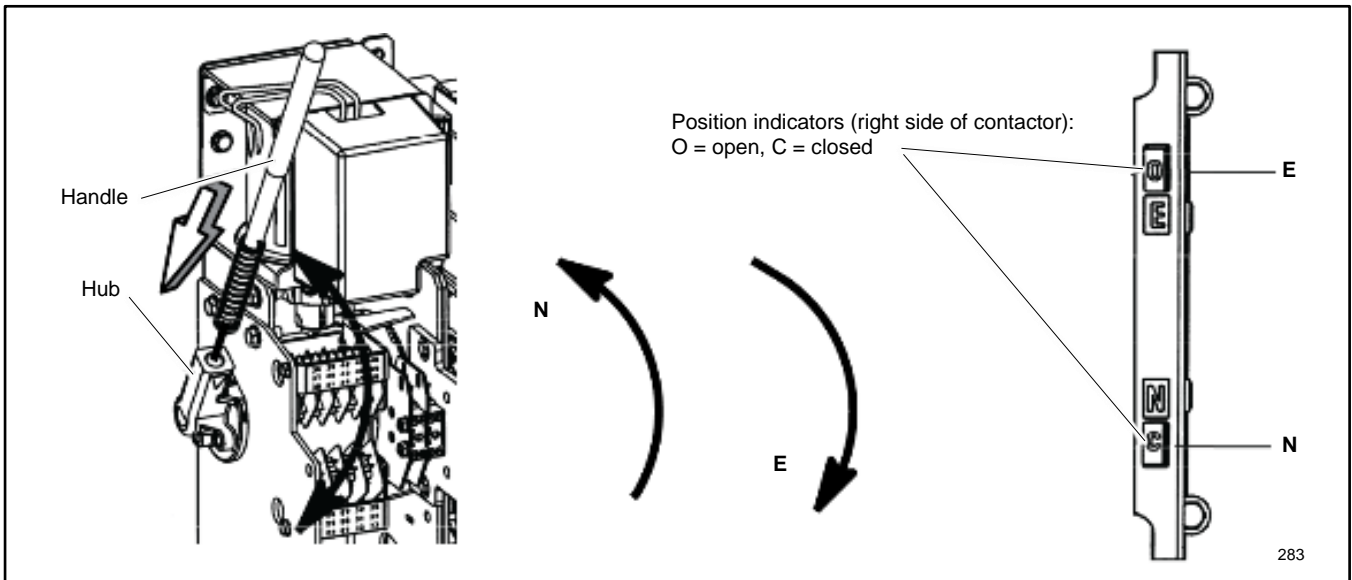

Figure 8 Manual Operation, 250-600 Amp Model KUS
3. **225 (600V) and 250--600 amp switches:** See Figure 8. Insert the maintenance handle into the hole in the shaft on the left side of the operator.